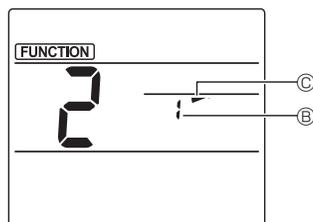

Fig. 5-2
1. In the Function setting screen, press the **DOWN** button ④ and select function No. "2".
2. Press the **SET** button ③.
- The vane number ② blinks. (Fig. 5-2)
3. Press the **DOWN** button ④ to select the vane number.
4. Press the **SET** button ③.
- The airflow direction setting ③ blinks. (Fig. 5-2)
5. Press the **DOWN** button ④ to select the airflow direction at which you want to fix the vane.